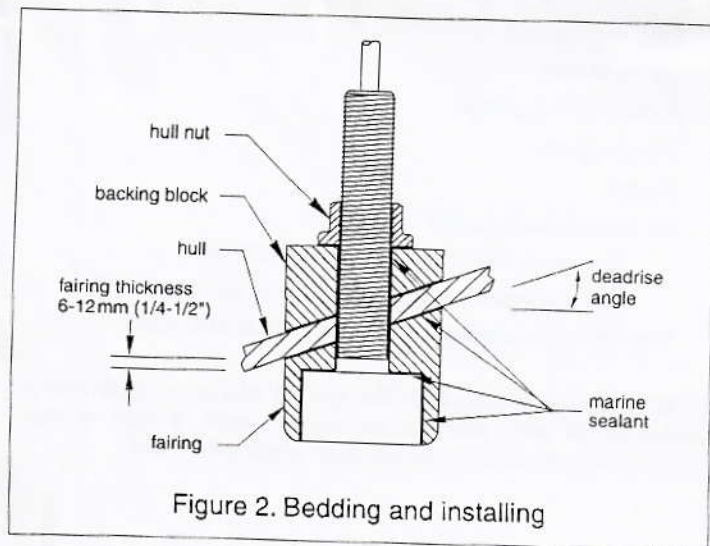

Figure 2. Bedding and installing
Nearly all vessels have some deadrise angle at the transducer's mounting location. If the transducer is mounted directly to the hull, the sound beam will be tilted off the vertical at the same angle as the deadrise. A fairing is strongly recommended if the deadrise angle at the mounting location exceeds 10° (see Figure 2).
A backing block is used inside the hull to provide a level surface for the hull nut to seat against (see Figure 2). It is fabricated matching the interior deadrise angle of the boat. After cutting the Datamarine fairing, use the remaining section as the backing block.
1. Drill a 3mm or 1/8" pilot hole perpendicular to the waterline from inside the hull (see Figure 2). If there is a rib, strut, or other hull irregularity near the selected mounting location, drill from the outside. (If the pilot hole is drilled in the wrong location, drill a second hole in a better location. Apply masking tape to the outside of the hull over the incorrect hole, and fill it with epoxy.)
1. Measure the deadrise angle of the hull at the selected location using a digital level, or bubble level and protractor (see Figure 2).
- The fairing must be between 6–12mm (1/4–1/2") at the thinnest spot (see Figure 2).
- Remove the hull nut (see Figure 2).
- From inside the hull, slide the backing block and hull nut onto the cable. Seat the backing block against the hull (see Figure 2).